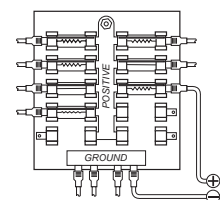

Figure 3
- 1a. If a fuse terminal is available, use crimp-on type electrical connectors (not included) that match the terminal on the fuse panel. Attach the black wire to ground (-), and the red wire to positive (+) 12 VDC power (Figure 3).